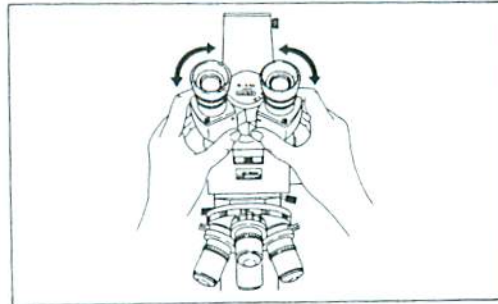

Fig. 15
- ① Insert the NCB 10 filter into the filter receptacle.
- ② As shown in Fig. 15, adjust the interpupillary distance, so that both the right and left viewfields become one.